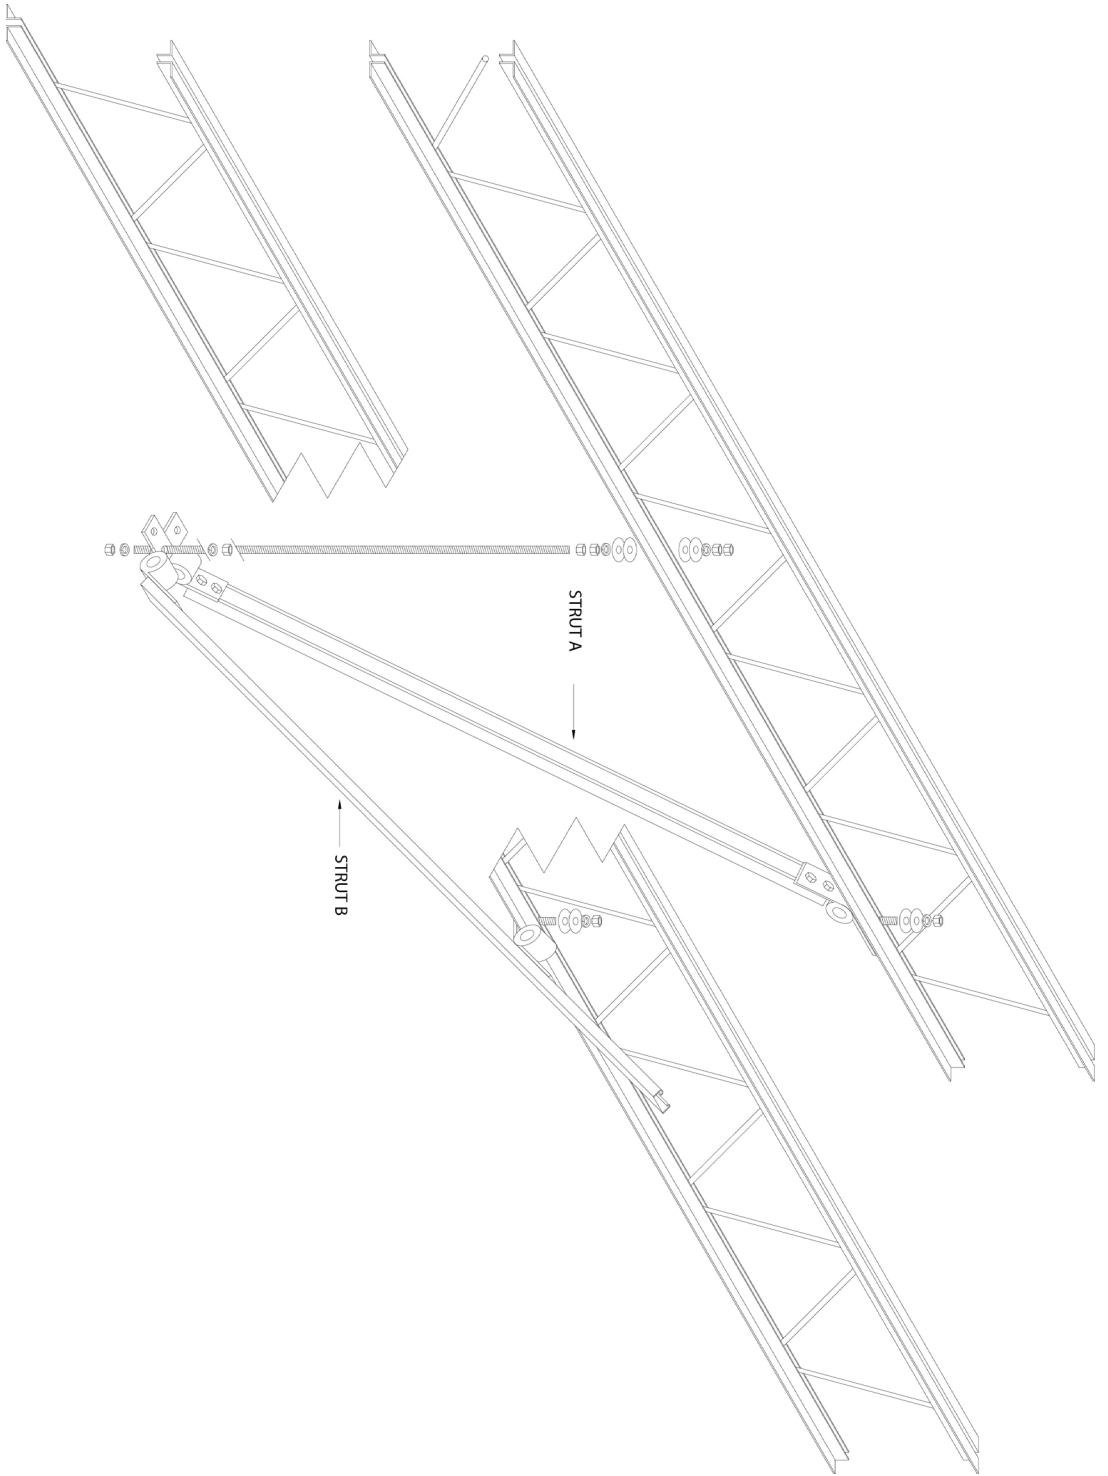

Figure 1
ASSEMBLY (See figure 1): Two people required for installation.
- **WARNING:** Check shackle for wear and movement. If more than 30% of the thickness of the shackle is worn away (See fig. 1), discontinue use until replaced. If the swivel moves excessively, discontinue use until all hardware is checked and tightened.